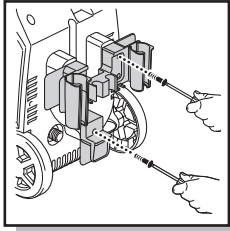
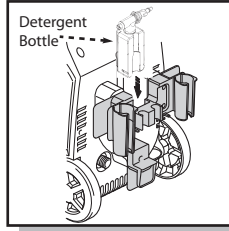

Fig. 1
Fig. 2
- Install the accessory holder on the back of your BLUE CLEAN POWER WASHER (Fig. 1). You’ll notice where the accessory holder meets the back of the unit. You will see several male index posts which fit into female holes. The posts and holes enable easy placement of the accessory holder and easy tightening of the screws. Place the screws in the holes provided on the accessory holder and screw them in. Do not use a power screwdriver. When the screw is completely tight, give a small final clockwise twist of the screwdriver. Do not over tighten. After the accessory holder is installed you will notice a square area in the center of the holder where the square detergent bottle may be stored and easily retrieved (Fig. 2).
- Using one of the supplied screws, install the small electric power cord holder below the accessory holder so that the “L” - shaped holder faces downward. The electric power cord can now be wrapped around the accessory holder and the bottom “L” - shaped holder while your power washer is not in use (Fig. 1).